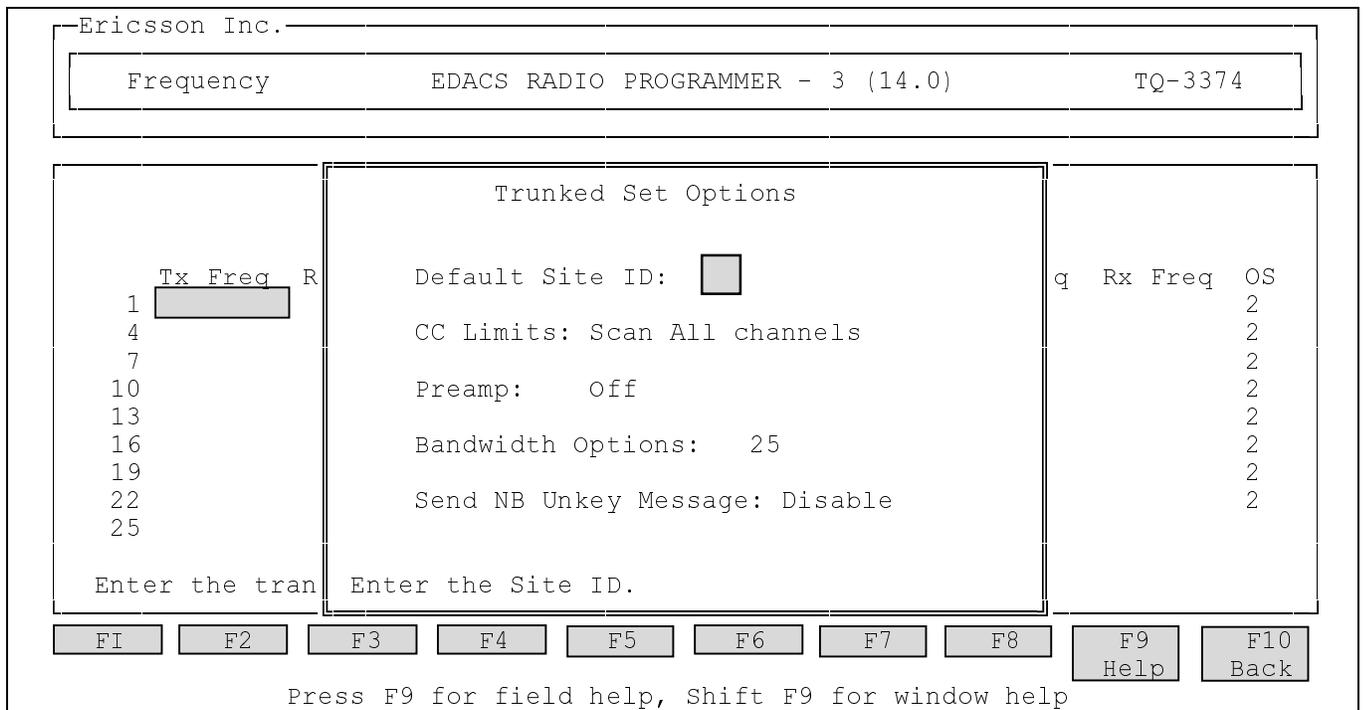

Figure 16 - Trunked Set Options Window
- Press the **F7** (Option) function key to bring up the **Trunked Set Options** window in front of the **Trunked Frequency Set** screen (Figure 16).